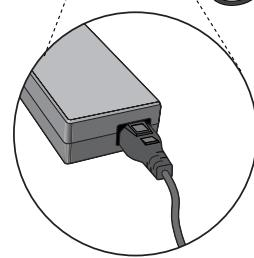

Figure G.1
7. Connect one end of the power cord to the AC Adapter and the other end to the power outlet (**Figure E.1**) (**Figure G.1**).